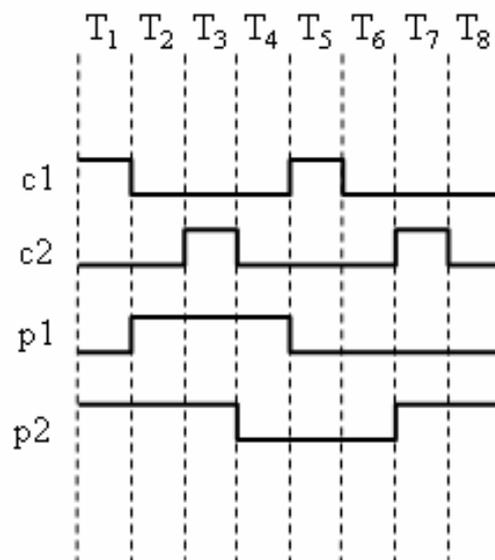

Figure 1.
The system we have to design will have to generate four output signals, named *c1*, *c2*, *p1* and *p2*, that will be used as inputs to the L6219 driver. The time sequence to generate these signals is shown in figure 1.
1. If the motor chosen has a maximum angular speed of 300 r.p.m. and we want to sweep the mentioned 90° zone in 1 second, assuming that all the intervals shown in figure 1 are equal and of value T , find the value of T . (10%)